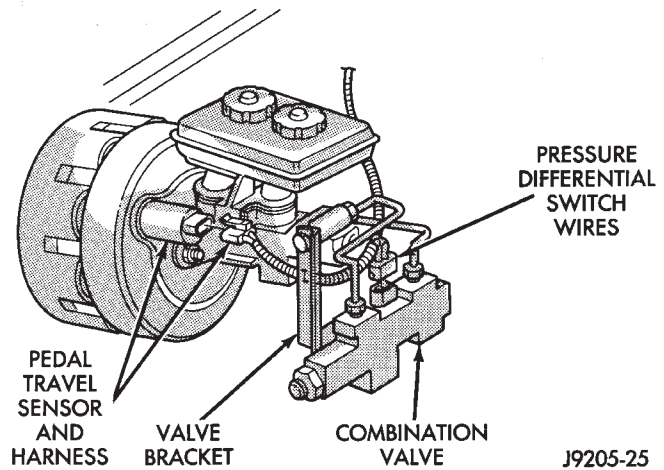

Fig. 20 Combination Valve Mounting (XJ)
- (1) Remove air cleaner housing for access to valve, if necessary.
- (2) Remove bolt attached valve to master cylinder (Fig. 20).
- (3) Disconnect pedal travel sensor harness connector and move harness wires aside for working access if necessary.
- (4) Disconnect pressure differential switch wires at valve.
- (5) Disconnect hydraulic lines at valve and remove valve from vehicle.
- (6) Connect hydraulic lines to valve.
- (7) Position valve bracket on master cylinder and install bracket attaching bolt.